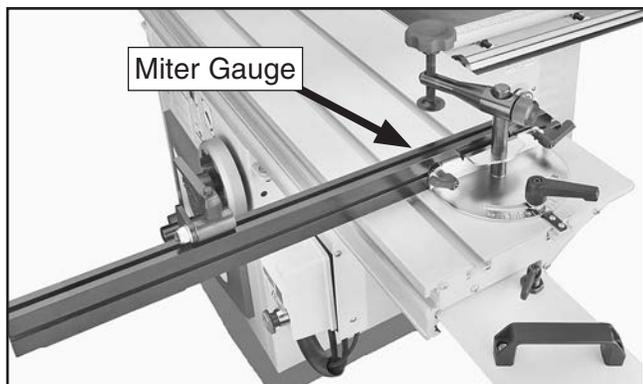

Figure 26. Miter gauge installed.
27. Install miter gauge as shown in Figure 26.